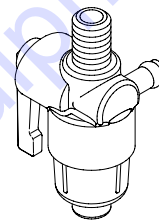

Figure 28. Fuel Cock
- Clean the fuel cock (Figure 28) every 50 hours of operation.